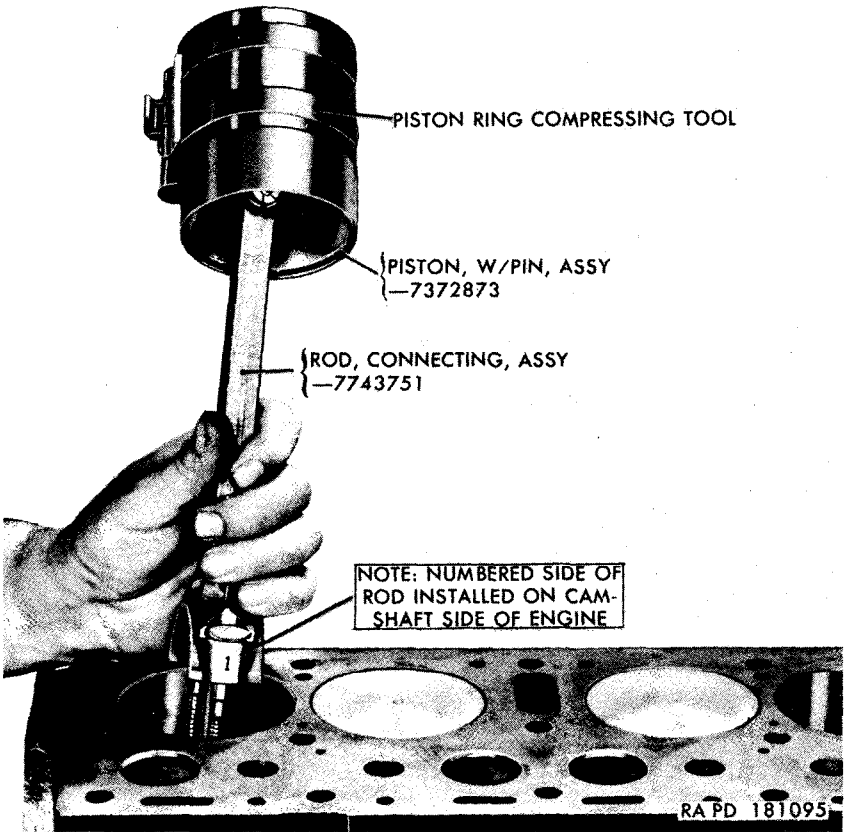

Figure 84. Installing pistons and connecting rods.
c. Turn the crankshaft so that the crankpin of the piston about to be installed is at bottom center. Matching the piston and connecting rod to the cylinder bore to which it was fitted (par. 60b(5)), start the piston into the top of the cylinder block (fig. 84) so that the narrow side of the connecting rod offset is adjacent to the nearest main bearing (fig. 46). When correctly positioned, the side of the
connecting rod stamped with the cylinder identifying number is on the camshaft side of the engine (fig. 84). Use the handle end of a hammer to tap the piston through the ring compressing tool and down two or three inches into the cylinder.